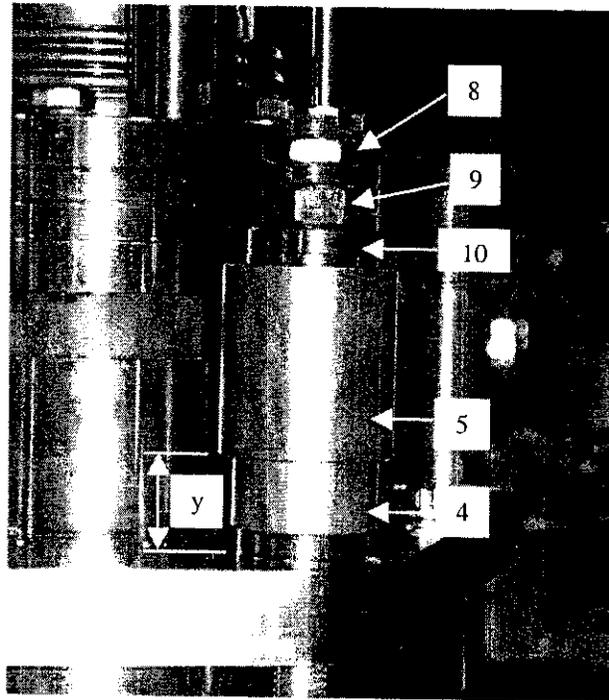
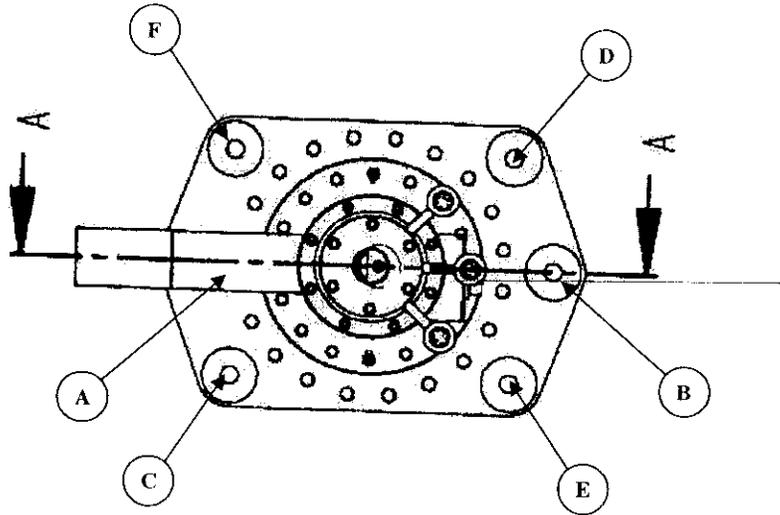

Figure 1.28a An installed Belleville Washer Assembly.
Figure 1.29.1.5 The specified sequence for tightening the Belleville Washer Assemblies.
- 1.28 Install Belleville Washer Assemblies on each tensioning stud per Figures 1.28a and 1.28b. A spherical washer must be placed below the Belleville washer holder on each stud. In the figures: Items 11 (10 each) are Belleville Washers, arranged as shown; Items 6 (2 each) are flat washers; Items 4 and 5 are the Belleville Washer Holder; Item 10 are Spherical Washers for above and below the washer holder; Item 9 is a loading nut; and Item 8 is a jam nut.
- 1.29.1.2 Tighten the 6 loading nuts finger-tight. With adjustable parallels, measure and record the gap "y" indicated in Figure 1.28a between Item 5 and the current lead top flange at the 6 locations specified in Figure 1.29.1.5. Units are mm.
- 1.29.1.4 Using the sequence A through F in Figure 1.29.1.5, tighten the loading nuts 1/4 turn until the total compression is 1.8 mm at each of the six locations. As each loading nut is tightened 1/4 turn, check off the appropriate line.
1.29.1.5 Record the final measured gaps 'y' in Figure 1.28a. Units are mm.
1.29.2.2 Tighten the 6 loading nuts finger-tight. With adjustable parallels, measure and record the gap "y" indicated in Figure 1.28a between Item 5 and the current lead top flange at the 6 locations specified in Figure 1.29.1.5. Units are mm.
1.29.2.4 Using the sequence A through F in Figure 1.29.1.5, tighten the loading nuts ¼ turn until the total compression is 1.8 mm at each of the six locations. As each of the loading nuts is turned ¼ turns, check off the appropriate line.
1.29.2.5 Record the final measured gaps 'y' in Figure 1.28a. Units are mm.